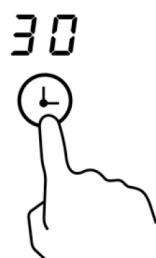

Fig.26
3. Touch the slider control to set the timer to "00". The timer will then be cancelled. Fig.26